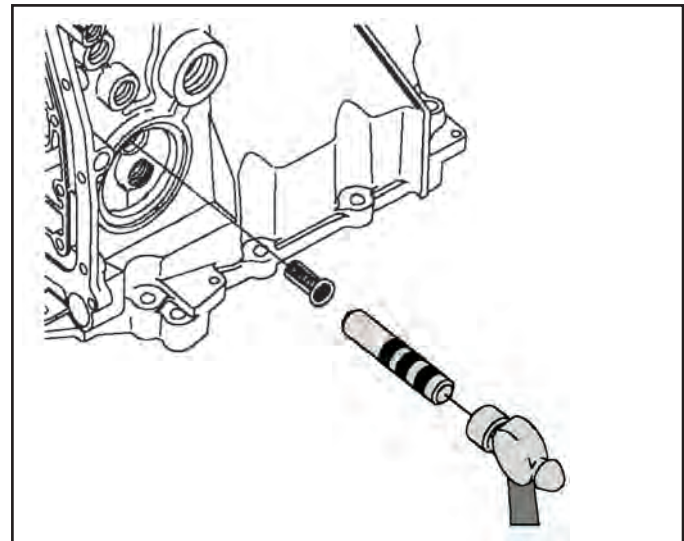

Figure 85
41. Install a new valve (Part # 25014006) with an appropriate size installation tool (See Figure 85).